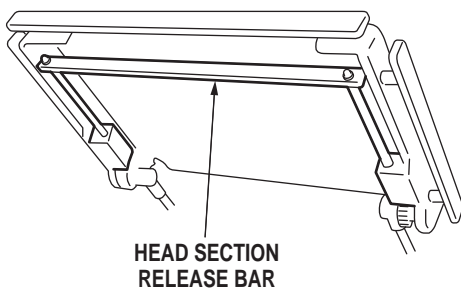

Figure 2-18. Head Section Adjustment
a. A quick release positioning bar located under and to the front of the head section (figure 2-18) is used to raise or lower the head section. Pull the release bar toward the head end to allow the section to pivot up or down. Positioning from 60° above horizontal to 90° below horizontal in 15° increments is available. Release the bar to lock the head section in position.